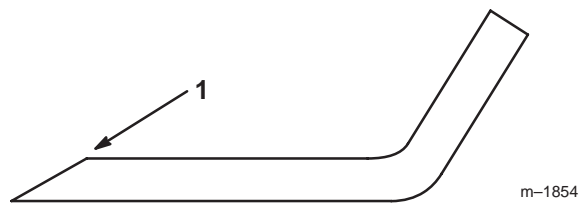

Figure 48
- Use a file to sharpen the cutting edge at both ends of the blade (Fig. 48). Maintain the original angle. The blade retains its balance if the same amount of material is removed from both cutting edges.